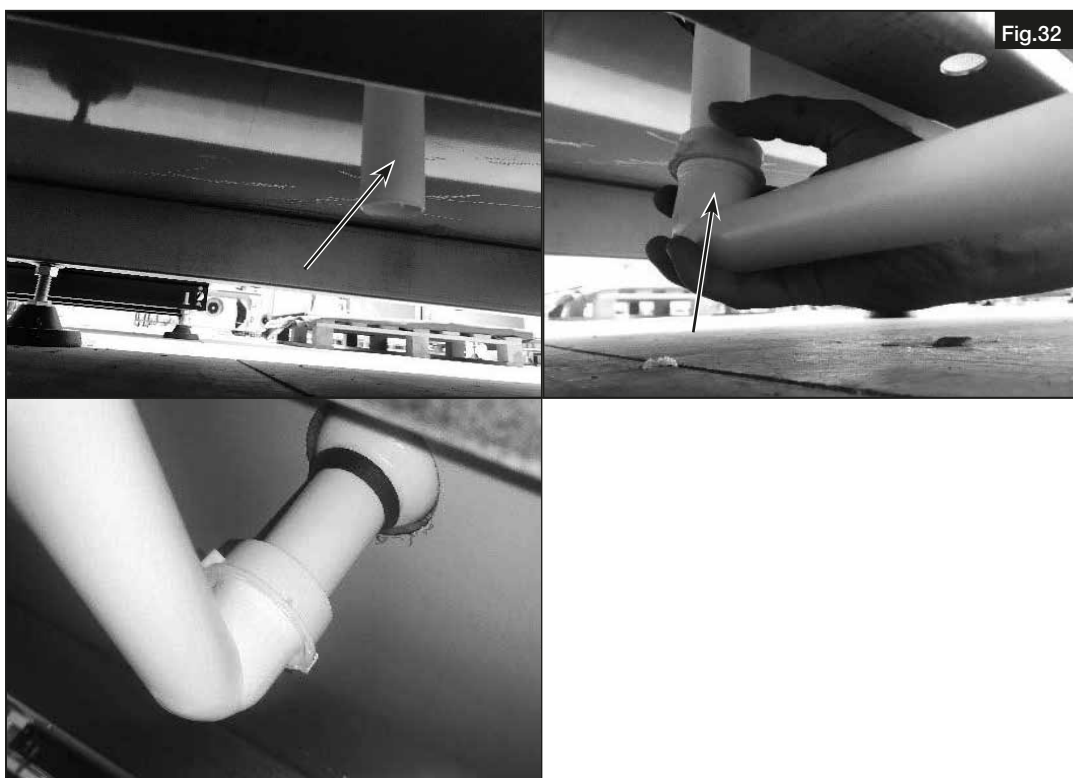

Fig.32
8. Fasten the pipe bend below the condensate tray. Ensure that the pipe is water-tight (see Fig.32).